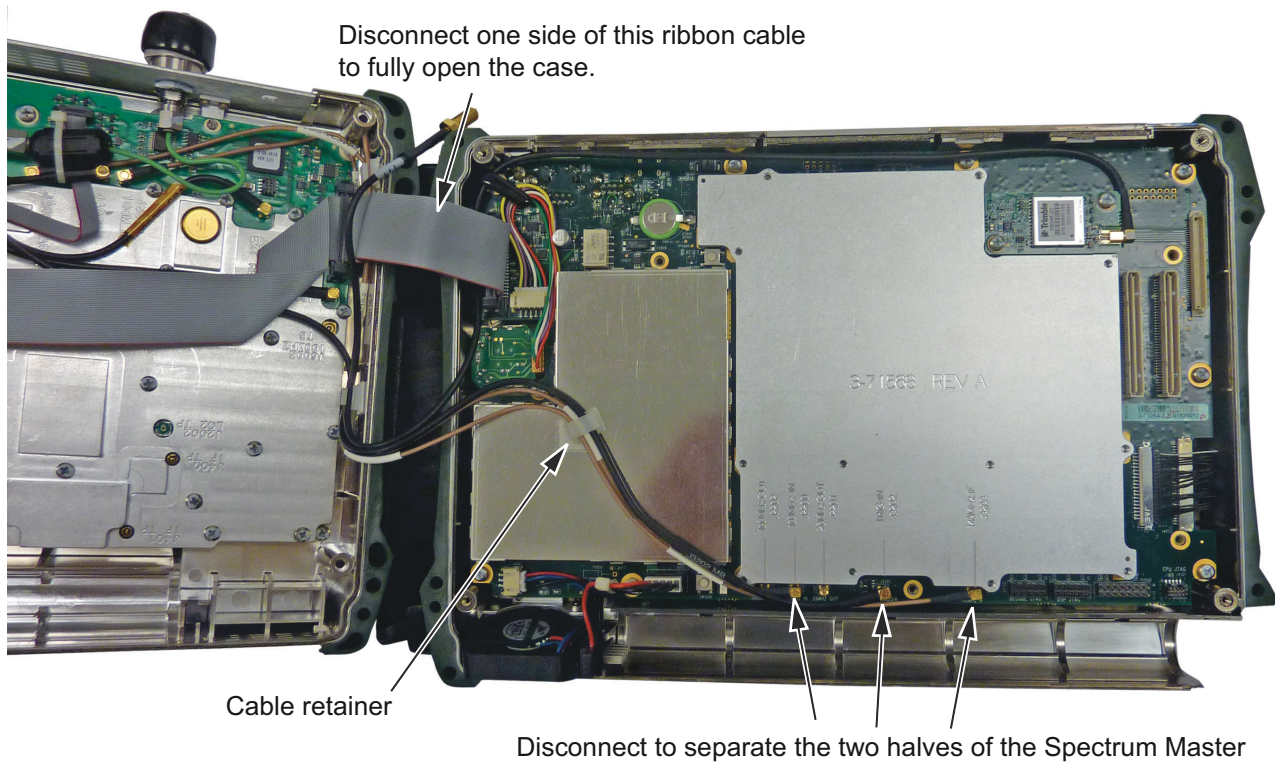
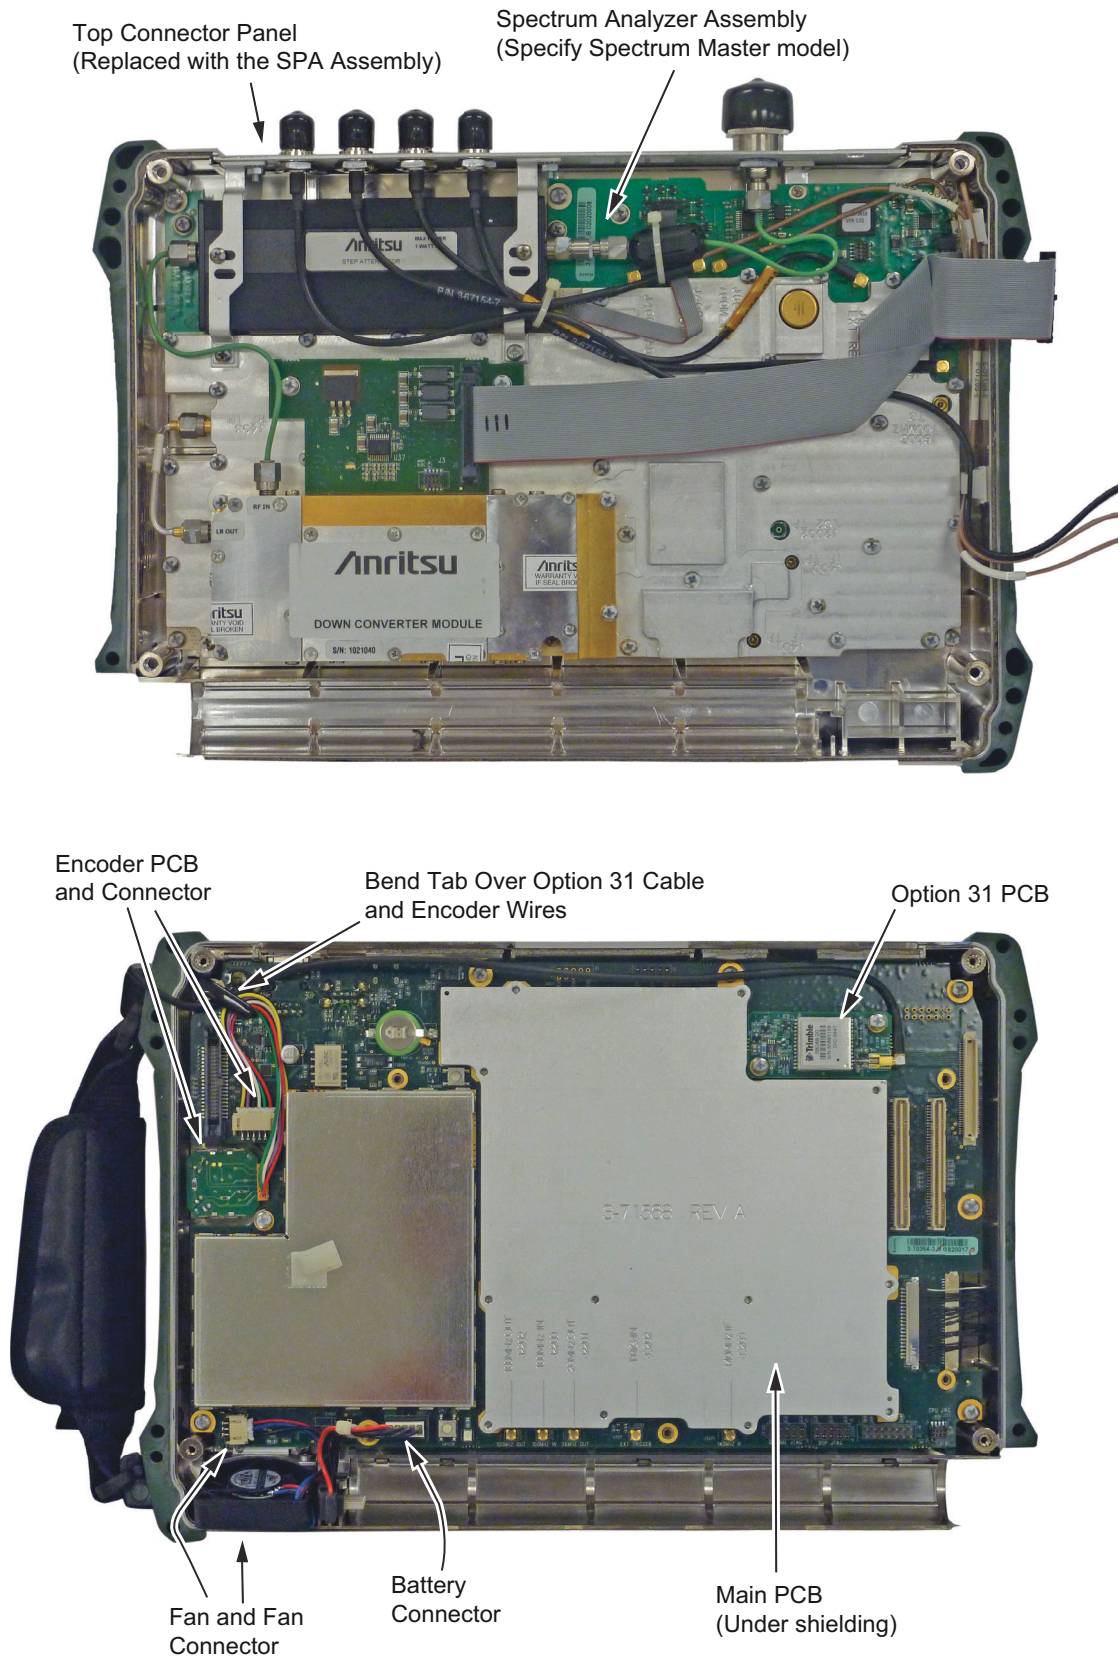

Figure 5-3. Disconnect the Cables Between the Two Halves of the Spectrum Master
Figure 5-4. SPA Analyzer PCB Assembly (Top) and Main PCB Assembly (Bottom)
Do not force or pull the two halves of the case apart completely, there are delicate cables attached between the two halves that must be disconnected first. Refer to Figure 5-3 and Figure 5-4. Note the position and routing of the cables, they should be similarly routed when the unit is reassembled.
9. The two halves of the instrument can now be safely separated (Figure 5-4). Refer to the following sections of this chapter to remove and replace specific components of the instrument.